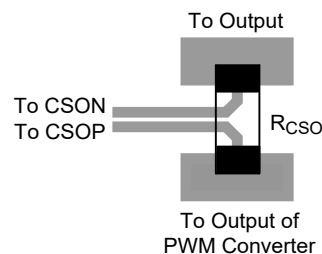

Figure 5. Kelvin Connections for the R_{CSO}
- Connect the capacitor (between the CSOP and CSON pins) close to these pins. The paths of CSOP and CSON must be directly connected to the terminals of current-sense resistor (R_{CSO}) using Kelvin connections as shown in the layout shown in Figure 5.